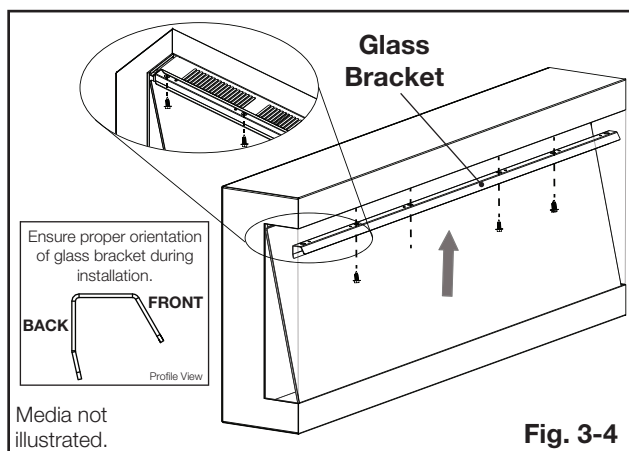

Fig. 3-4
4. Install the glass bracket by resecuring the four flathead screws through the glass bracket holes (**Fig. 3-4**).